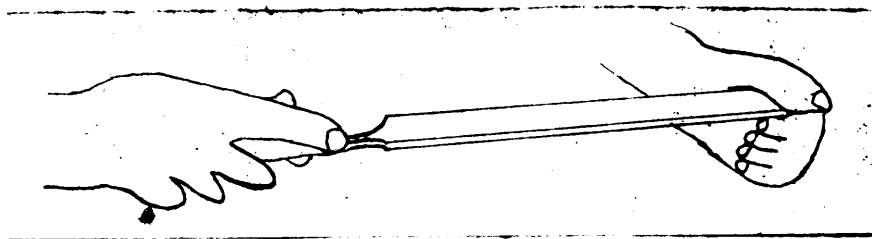

Figure 9.
4. Grasp the handle with whole hand and the other end with thumb and forefinger for light work. (Figure 9).